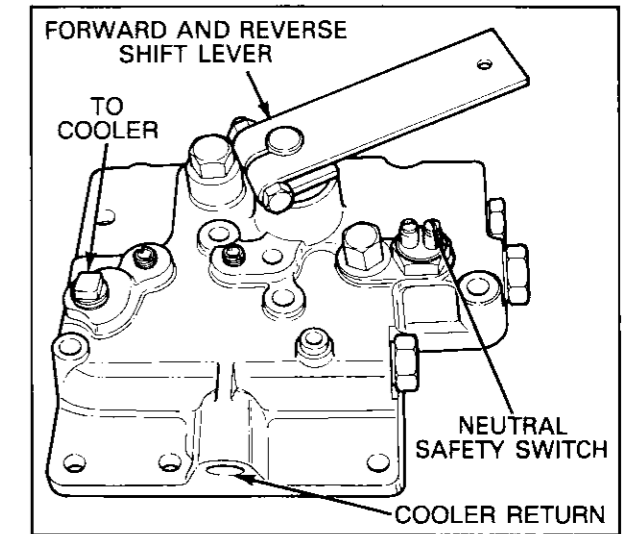

FIG. 19 NEUTRAL START SWITCH INSTALLATION
11. Install the neutral start switch and tighten to 20-30 pounds-feet (27-41 N·m) (Fig. 19). Install the lube relief check ball, spring and plug (Fig. 19).